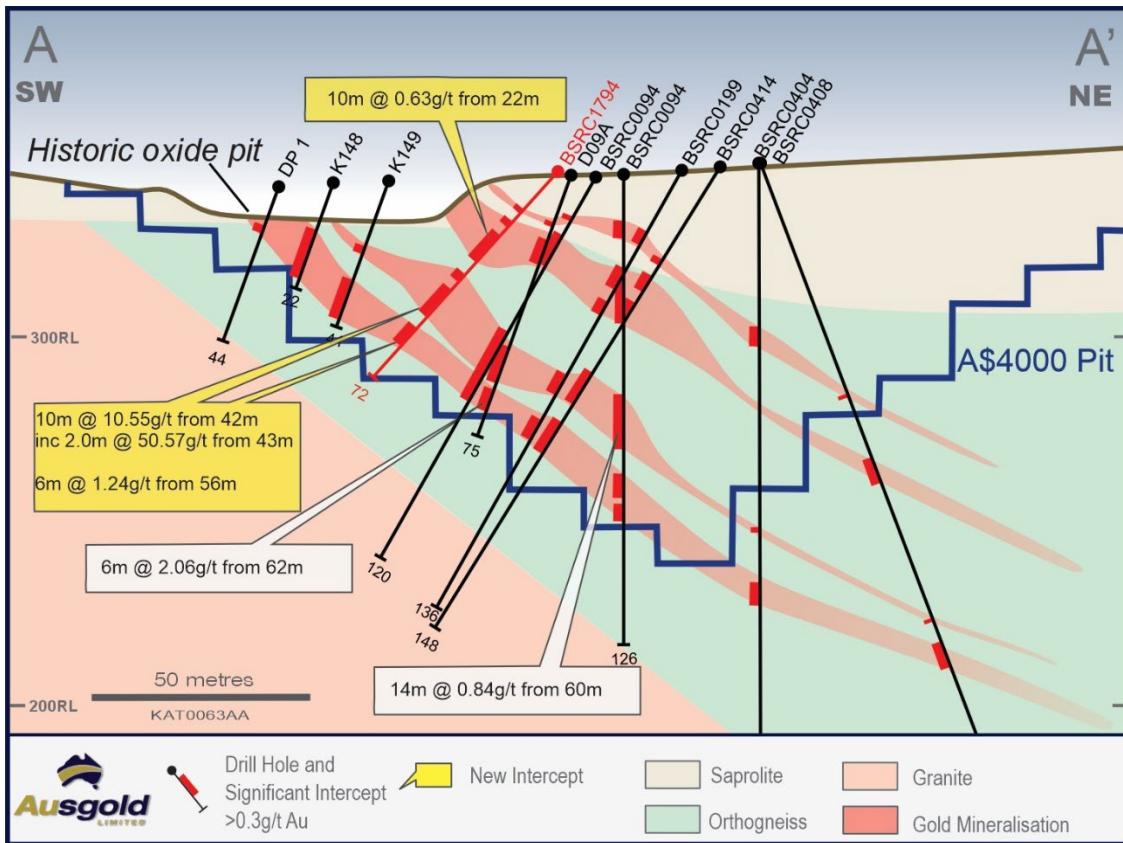

Figure 3 – Cross-section A-A' across Dingo (20m window)
- 10m @ 10.55g/t Au from 42m including 2m @ 50.57g/t Au from 43m in BSRC1794 (Figure 3)